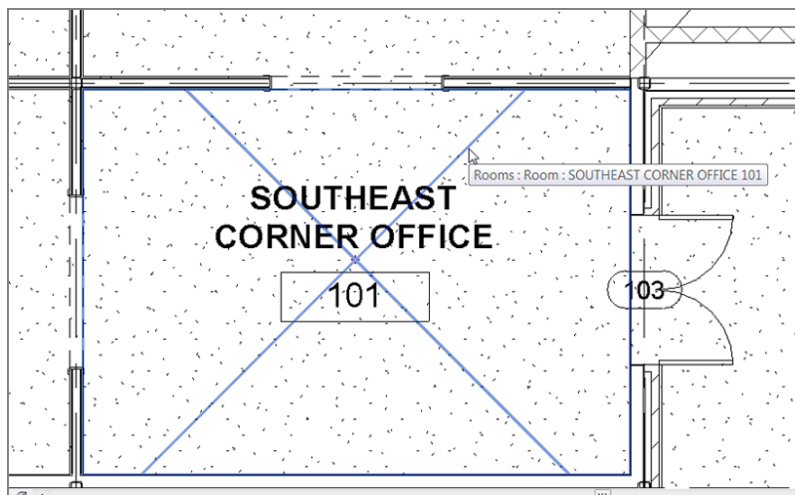

FIGURE 15.2: Changing the room name and number to SOUTHEAST CORNER OFFICE and 101, respectively
5. Change the number to **101** (see Figure 15.2).